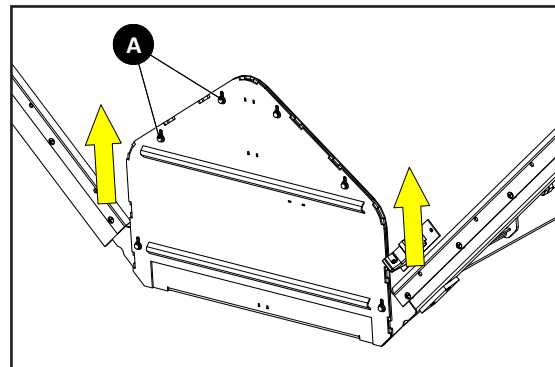

Figure 1
- Figure 1 - Loosen six cap screws (A) and push feedgate assembly upwards in slots.